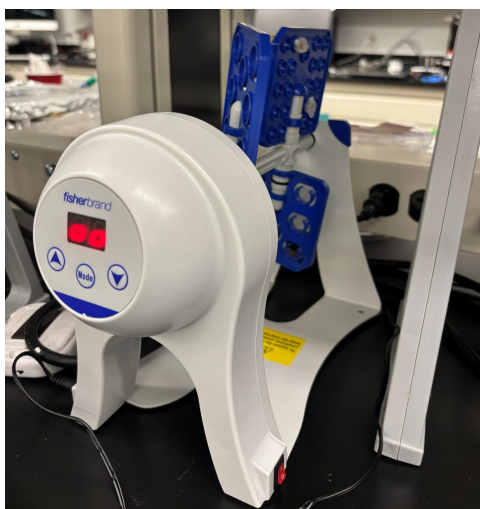

Figure 10: Reactive Goat α -H (Anti-Human) IgG Biotin with Dynabead
6. Place the microtube into the roller and mix with shaking mode for 30 minutes at room temperature (Figure 10)